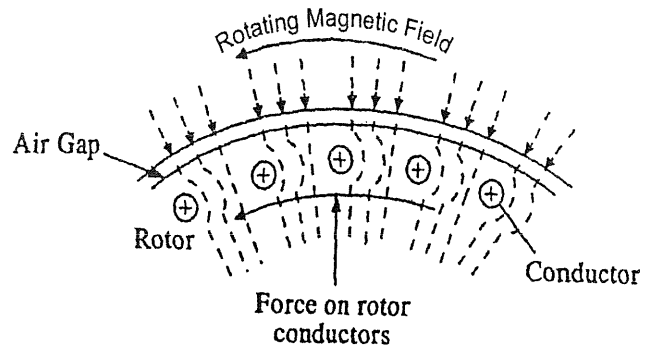

FIG. 4.11 : WORKING PRINCIPLE OF 3-PHASE INDUCTION MOTOR
- Consider a portion of three phase induction motor as shown in Fig. 4.11.